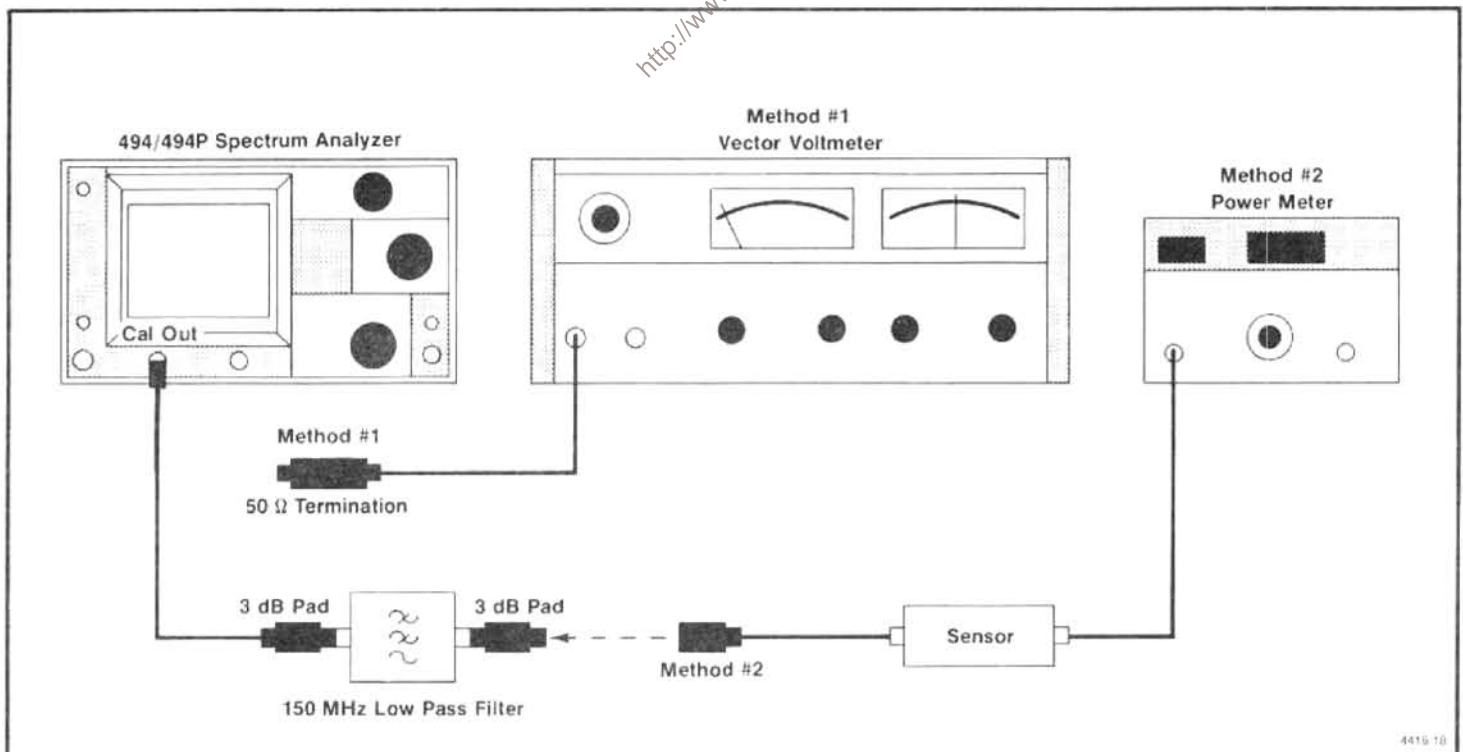

Figure 4-10. Test equipment setup for checking the calibrator output level.
- (1) Test equipment setup is shown in Figure 4-10.
- (2) Terminate the voltmeter probe with a 50 Ω feed-through termination and then connect the terminated probe to the CAL OUT connector
- (3) Set the vector voltmeter frequency to 100 MHz.
- (4) Check - for an rms reading between 21.11 mV and 22.69 mV. (22.36 mV rms, across 50 Ω, is -20 dBm.)
(2) Connect the power meter sensor through a low-pass filter (≥40 dB, at 200 MHz, to remove harmonics of the fundamental) to the CAL OUT connector.